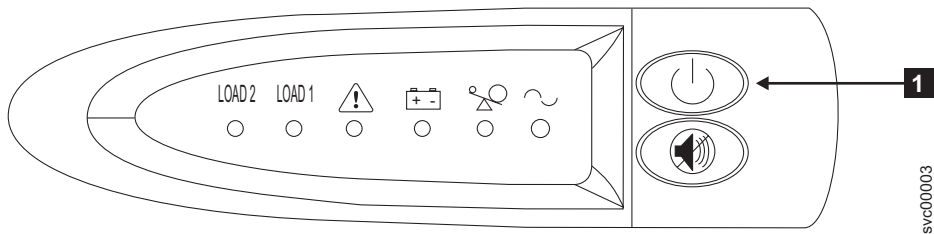

Figure 56. Uninterruptible power supply 5115 front panel assembly
1. At the front of the UPS 5115, press and hold the on/off button **1** for two seconds until all indicators are off. See Figure 56. The UPS 5115 will enter standby mode.